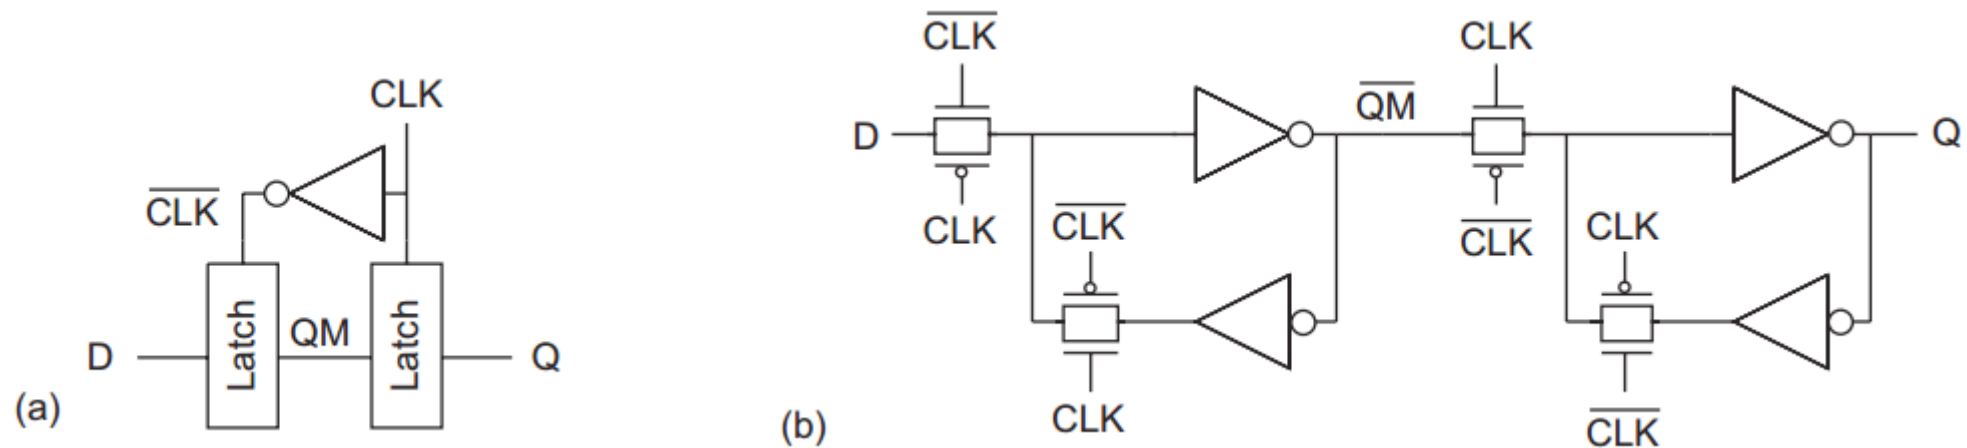

FIGURE 1.32 CMOS positive-edge-triggered *D* flip-flop
- By **combining two level-sensitive** latches, **one negative-sensitive and one positive-sensitive**, we construct the **edge-triggered flip-flop** shown in Figure 1.32(a-b).